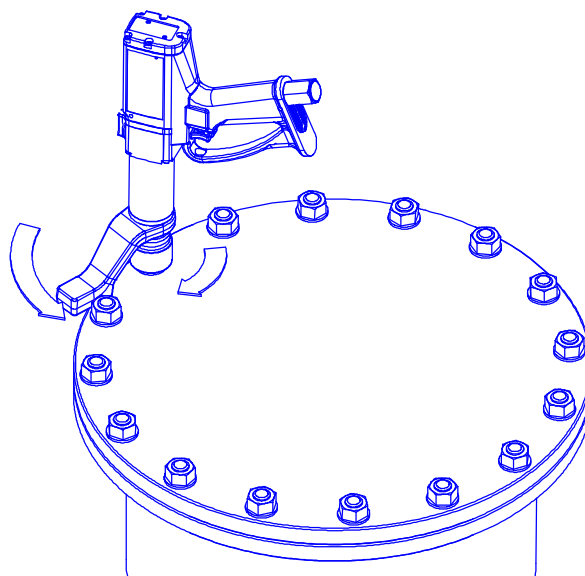

Figure 7
3. Rotate the Handle into a convenient position relative to the reaction arm. Fit the tool onto the fastener to be tightened with the reaction arm adjacent to the reaction point. See Figure 7.